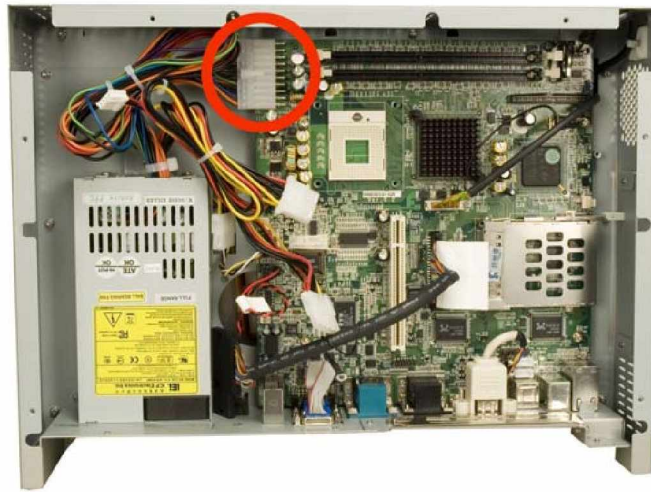

Figure 4-9: PSU Motherboard Connector
**Step 4:** Disconnect the PSU power cable connectors from the motherboard (**Figure 4-9**)